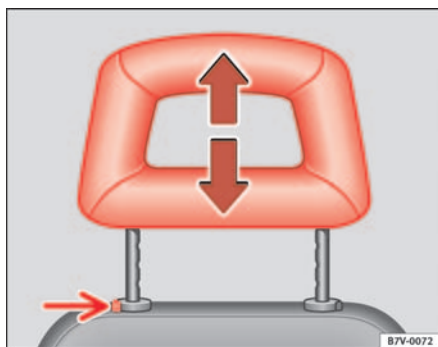

Fig. 86 Adjusting and removing the head restraints
- Push the head restraint up (in the direction of the arrow) or push it down with the button pressed ⇒ fig. 86 (arrow). Correct setting ⇒ page 122.
- Press the button ⇒ fig. 86 -arrow-.
- Press and hold button ⇒ fig. 86 (arrow) and push the head restraint down **as far as it will go**.